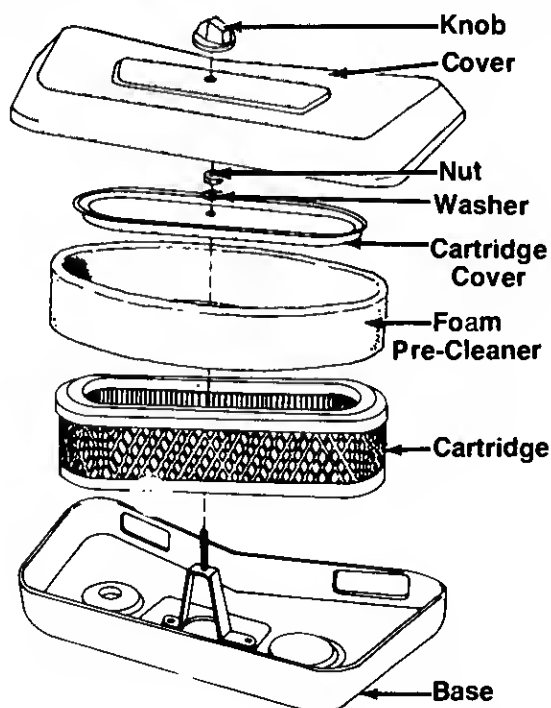

FIGURE 21.—16 H.P. Units
1. Remove knob and cover. See figure 21.